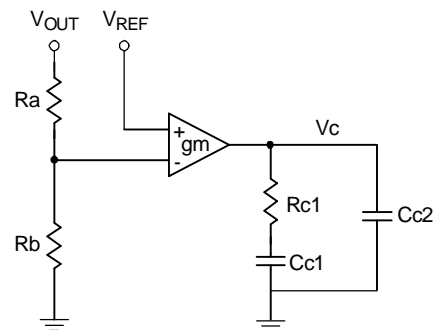
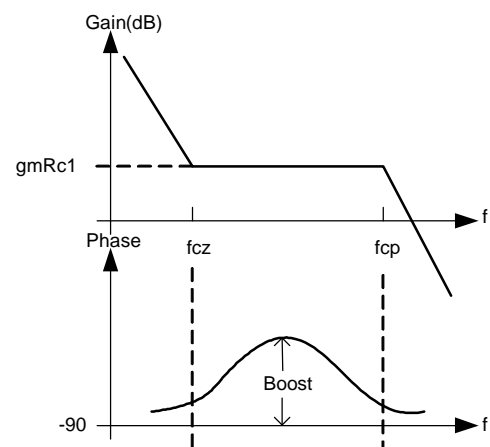

Figure 9. The typical type 2 trans-conductance error amplifier.
Figure 10. The Bode plot of type 2 trans-conductance error amplifier
So, the transfer function of compensator $C(s)$ must be designed to meet these requirements. In many applications, use an electrolytic capacitor as the output capacitor, if the zero (f_z) caused by effective series resistance (ESR) of capacitor is a few kHz and smaller than 8 times f_p , the type 2 (PI) can be used to get desired compensation. Figure 9 shows the typical type 2 trans-conductance error amplifier and the Bode plot is also shown in Figure 10.